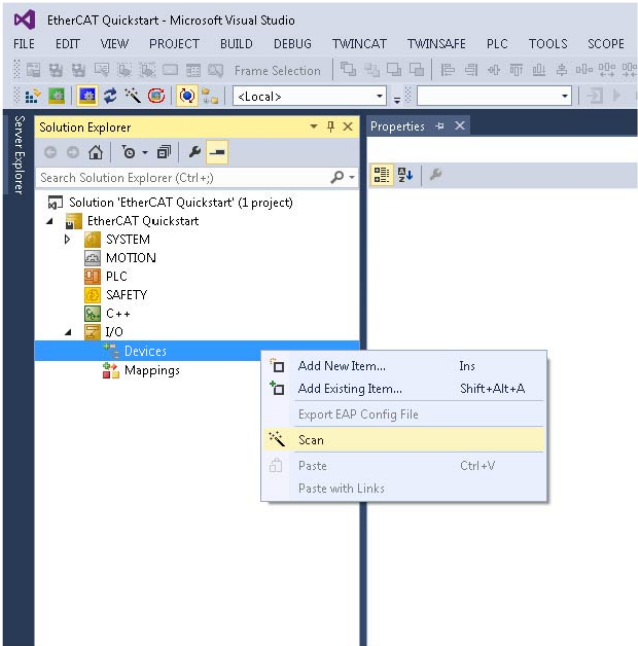
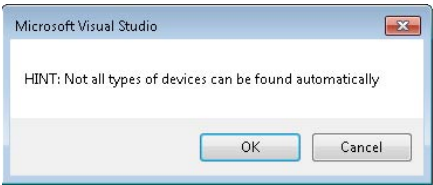

Figure 13. Scan Device
Figure 14. Scan Warning
5. Select **I/O** within the **Solution Explorer** pane if it is not already expanded and right-click **Devices** under **I/O** (see Figure 13).
6. Select **Scan** in the **Devices** pulldown menu (see Figure 13) and the scan warning message shown in Figure 14 appears.